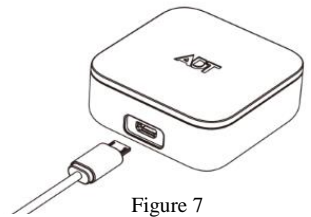

Figure 7
2. Connect the extension water probe into the device terminal.(Figure 7)